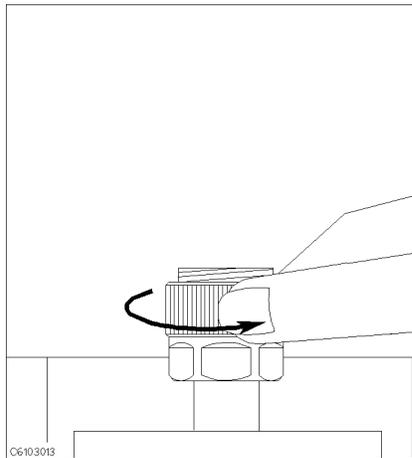

Figure 3-12.
1. Turn the APC-7® connector on the test head as shown in Figure 3-12.